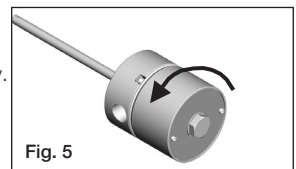

Fig. 5
- Step 1: Unscrew and remove main housing cover. (Fig. 5)
- 6.6 Step 1: Unscrew and remove main housing cover. (Fig. 5)
Step 2: Unscrew and remove main housing cover. (Fig. 5)